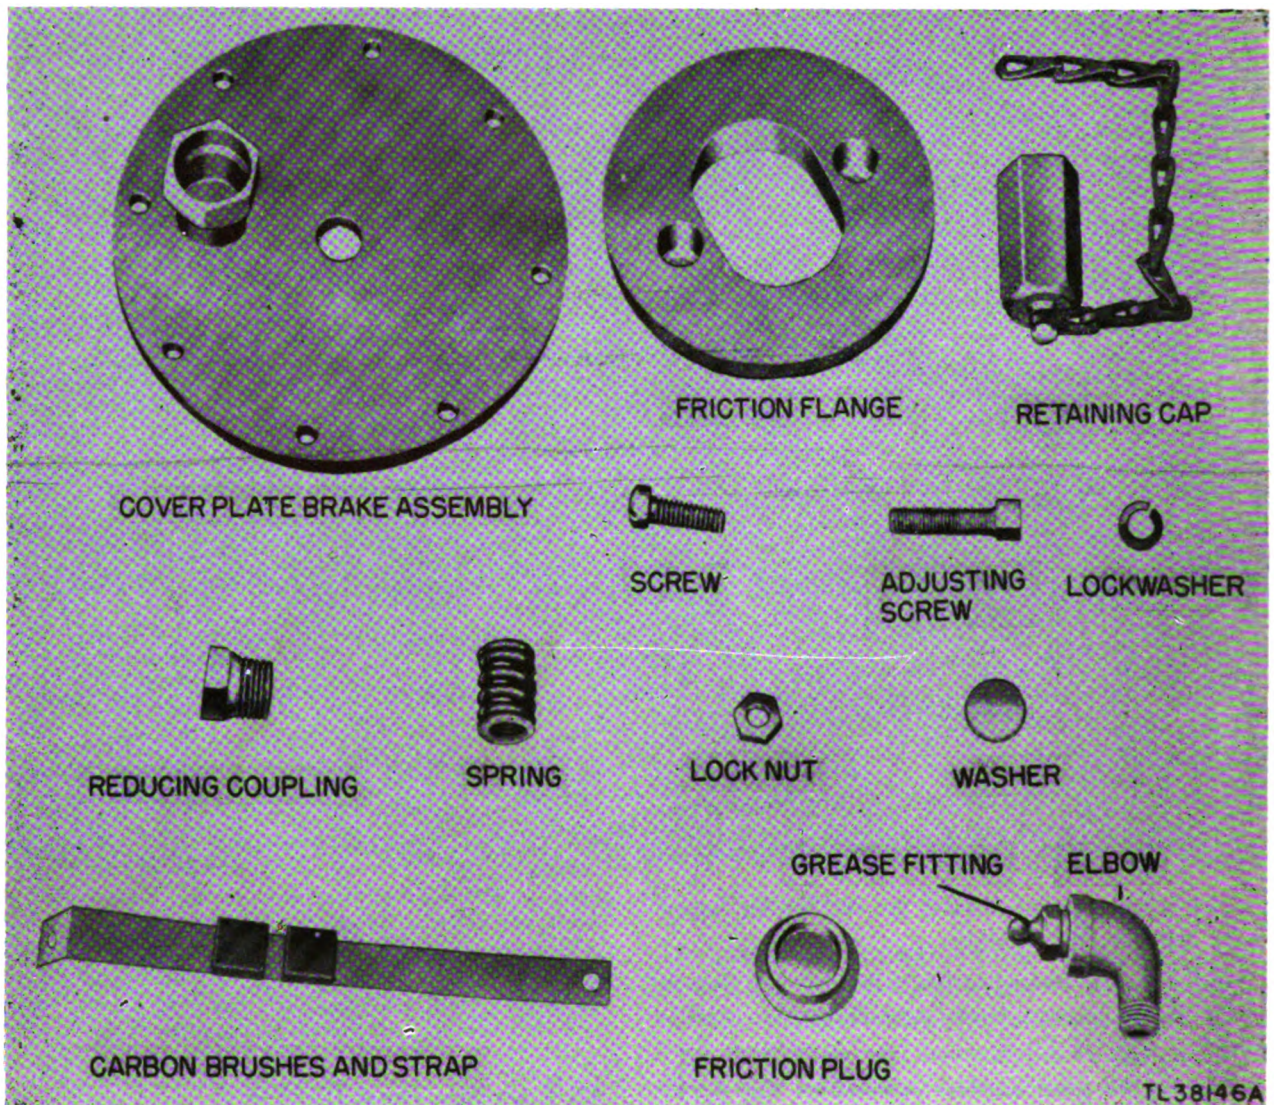
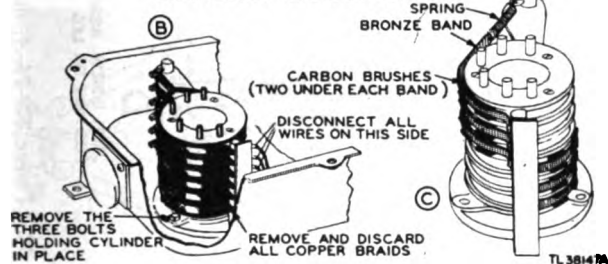

Figure 55. Tower TR-24-A, modification parts.
Figure 56. Tower TR-24-A, modification details.
(1) To change the lubricant in the worm gearbox from oil to grease.
(2) To apply an adjustable friction brake to the worm gear to enable regulation of the stiffness of rotation of the tower.
(3) To replace the woven wire slip-ring brushes with carbon brushes.
c. The parts needed to perform the modification will be found in the brake kit for antenna Tower TR-24-A. Figure 55 is a photograph of the individual parts; refer to figure 56 for details of the installation.
(1) Drain the oil from the gearcase by removing the plug from the bottom of the round cover plate located at the base of the worm gearbox; then remove and discard the cover plate (fig. 56).
(2) Turn the gearcase assembly upside down for accessibility.
(3) Fasten the round friction disk to the underneath face of the bronze worm gear by screwing it to the two tapped holes in the gear. Use the slotted-head screws and lockwashers supplied. Be sure the screws are tightened securely.
(4) Fill the worm gearbox with the grease supplied; about one can will be required. Pack the grease in by hand, making sure that it is pressed into all pockets and areas.
(5) Attach the new round cover plate equipped with the friction plug. The washer, spring, and bronze friction plug should be inserted in the holder
with the plug on top as shown in figure 56[A]. The gasket and gasket cement should be applied under the plate to make an oil-tight joint.
(6) Remove and discard the small caution plate on the antenna-motor housing.
b. ADJUSTMENT OF BRAKE FRICTION. The spring-loaded friction plug engages the worm-gear friction flange; the contact pressure and resulting friction are adjustable by means of the adjusting screw which projects through the cover plate and is inclosed by the oil-tight retaining cap (fig. 56[A]). Remove the cap and loosen the locknut; then lightly screw in the adjusting screw until the contact of the plug against the flange is felt. Screw in the adjusting screw three complete turns from this point. Tighten the locknut and replace the retaining cap. This is an average adjustment setting. In cold climates or
(1) Remove the cover from the terminal box on the side of the gearcase (fig. 56[D]).
(2) Disconnect the three wires inside the box.
(3) Unscrew the union (fig. 56[E]) and disconnect the flexible conduit. The conduit and wires remain attached to the selsyn box.
(4) Remove the six 5/16-inch fastening screws (fig. 56[F]) which bolt the selsyn box to the underneath face of the intermediate housing under the gearcase assembly. Lower the selsyn box, being careful to keep it square and perpendicular in order not to damage the slip-ring unit.
(5) Remove the three $\frac{1}{4}$ -inch cap screws (fig. 56[B]) from the supporting bearing at the base of the slip-ring cylinder.
(6) Take the slip-ring unit, with its six connecting wires, out of the selsyn box, and disconnect the wires from the bakelite terminal strip.
(7) Take out and discard the six flexible woven wire brushes (fig. 56[B]).
(8) Replace these brushes with the new bronze strip brush-holders, each containing two carbon brushes (fig. 56[C]).